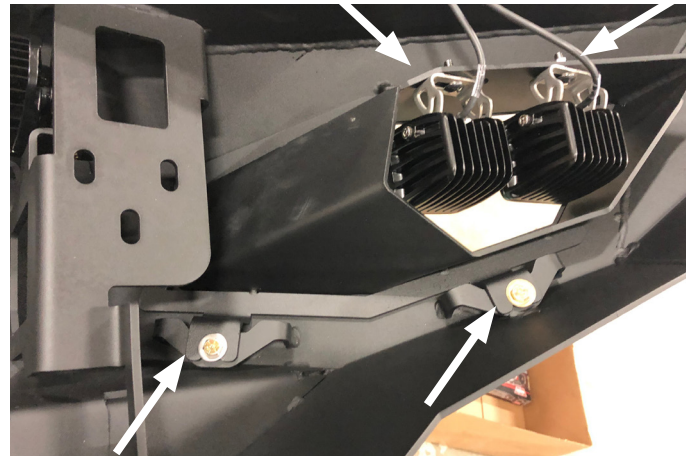

Figure 5
5. Using a 1/2" socket wrench, install the light boxes (21857 and 21858) onto the bumper by inserting the tabs into the slots and bolting it down with the provided 5/16"-18 bolts, 5/16" lock washers and 5/16" flat washers on both sides of the vehicle (50177-HW). (Figure 5)